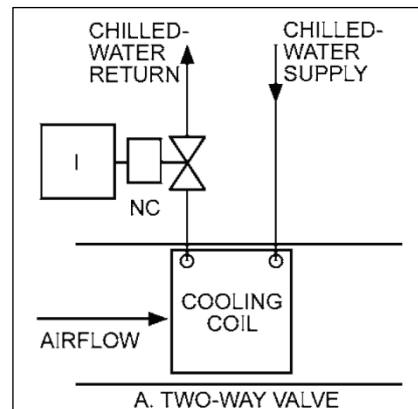

Figure 2: Control of Chilled-Water Coils
- Figure 2: 2019 ASHRAE Handbook – HVAC Applications, 48.7, Figure 14